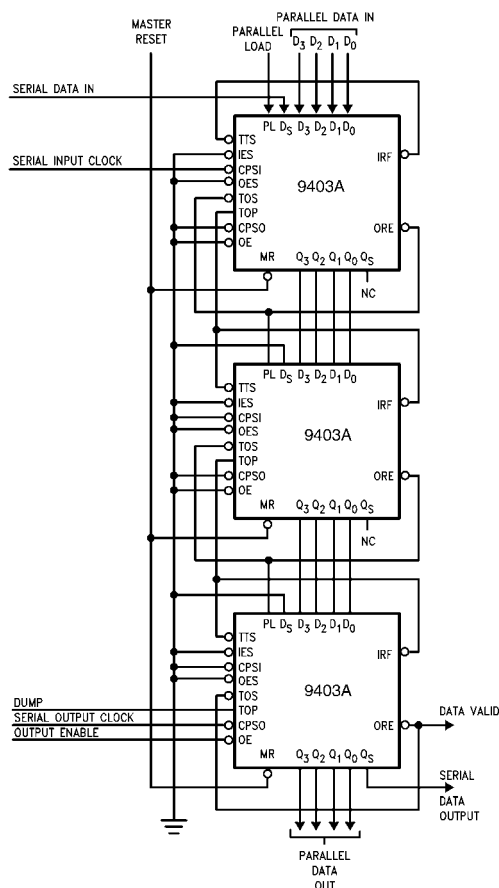

FIGURE 4. A Vertical Expansion Scheme
**Vertical Expansion**—The 9403A may be vertically expanded to store more words without external parts. The interconnection is necessary to form a 46-word by 4-bit FIFO are shown in Figure 4. Using the same technique, and FIFO of  $(15n + 1)$ -words by 4-bits can be constructed, where  $n$  is the number of devices. Note that expansion does not sacrifice any of the 9403A's flexibility for serial/parallel input and output.